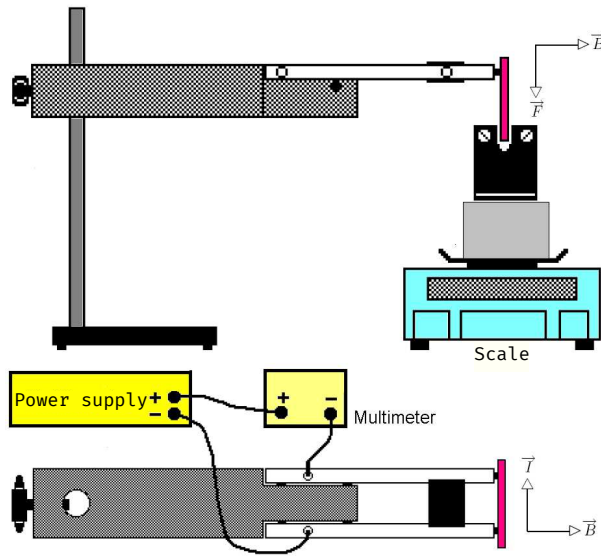

Figure 4.1: Sketch of the setup used for measuring force on a live conductor. **(Top)** Seen from the side. **(Bottom)** Seen from above.
The force on a live conductor in a magnetic field can be measured with the arrangement in Figure 4.1. The magnet
- ▶ Connect the circuit as shown in Figure 4.1. .